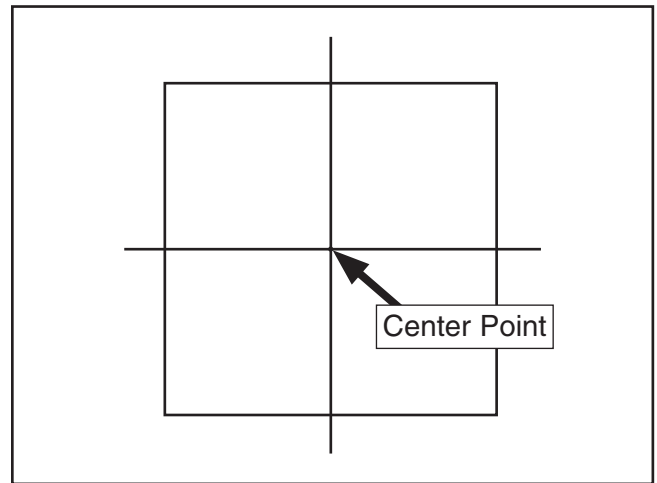

Figure 42. Center point marked on workpiece.
2. Find and mark center point on workpiece (see **Figure 42**).